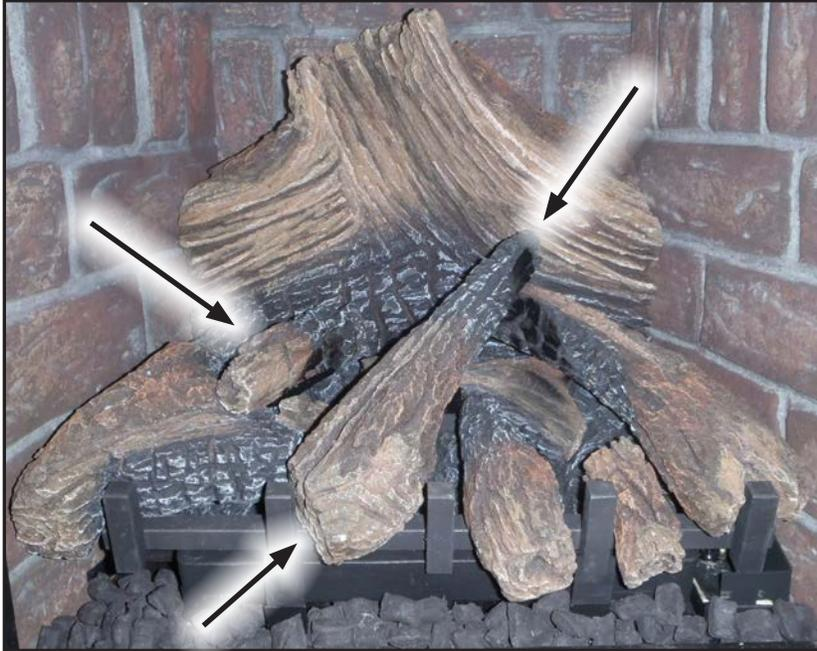

Figure 46. Complete log set-up with embers.
Step 3: Remove the seven retaining bolts from the back of the face (Figure 46) using a 5/16" socket or wrench.